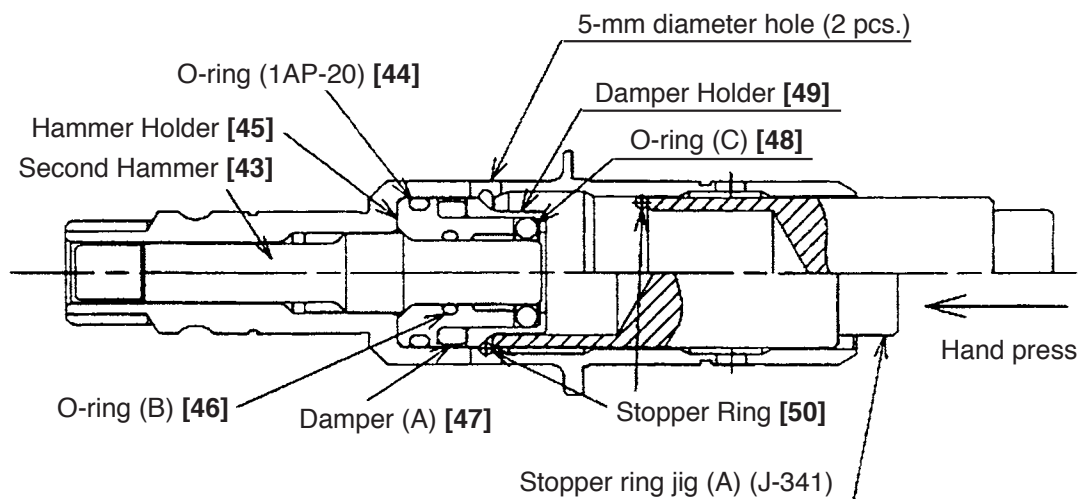

Fig. 25
(2) Mounting the Cylinder [38]
Mount the Second Hammer [43], O-ring (1AP-20) [44], Hammer Holder [45], O-ring (B) [46], Damper (A) [47], new O-ring (C) [48] and Damper Holder [49] in the Cylinder [38]. Push the new Stopper Ring [50] in the Cylinder [38] then push in the hole side of stopper ring jig (A) (J-341) on it as shown in Fig. 25. Push the upper end surface of stopper ring jig (A) (J-341) with a hand press to fit the Stopper Ring [50] in the groove of the inside diameter portion of the Cylinder [38]. Check that the Stopper Ring [50] is securely fitted in the groove of the inside diameter portion of the Cylinder [38] viewing from the 5-mm diameter hole (2 pcs.) on the Cylinder [38].